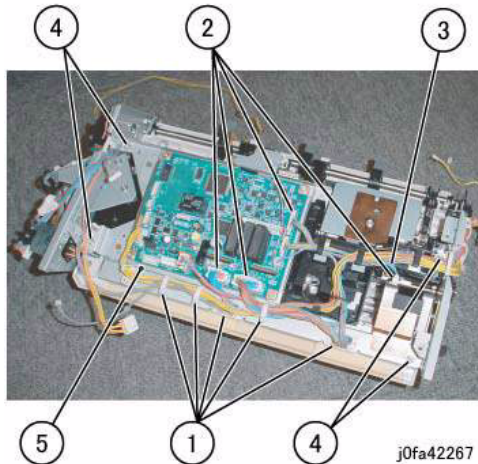

Figure 2 Removing the Bottom Plate (j0fa42267)
5. Remove the Bottom Plate. (Figure 2)